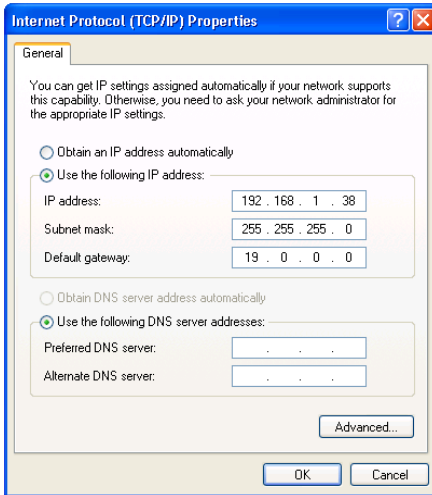

Figure 8: Internet Protocol (TCP/IP) Properties Window
6. Select Use the following IP Address, and fill in the details as shown in Figure 8. You can use any IP address in the range 192.168.1.1 to 192.168.1.255 (excluding 192.168.1.39) that is provided by your IT department.